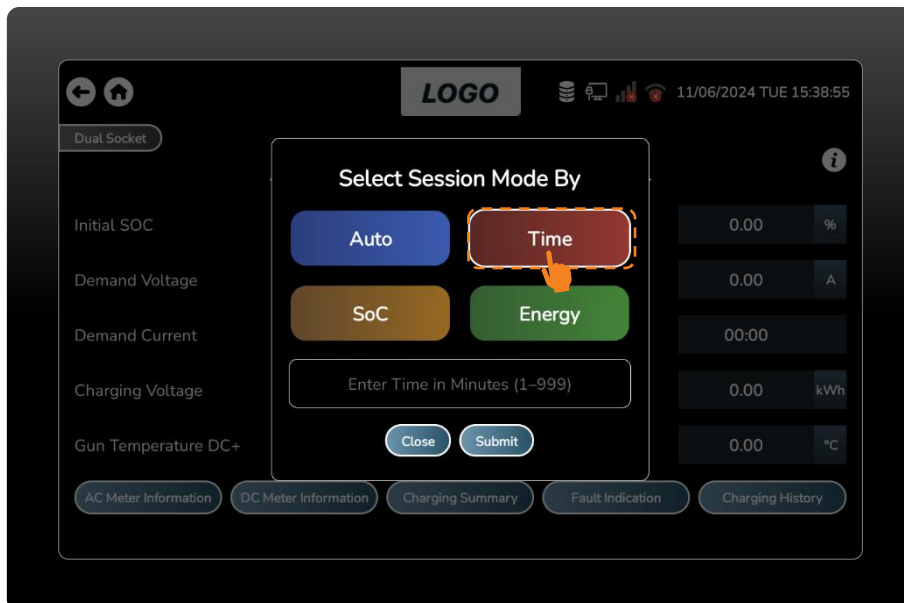

Figure 87 Time Mode Selection.
- Time mode allows the user to specify a charging time ranging from 1 to 999 minutes, allowing the user to charge the vehicle at a certain time. (Figure 87)